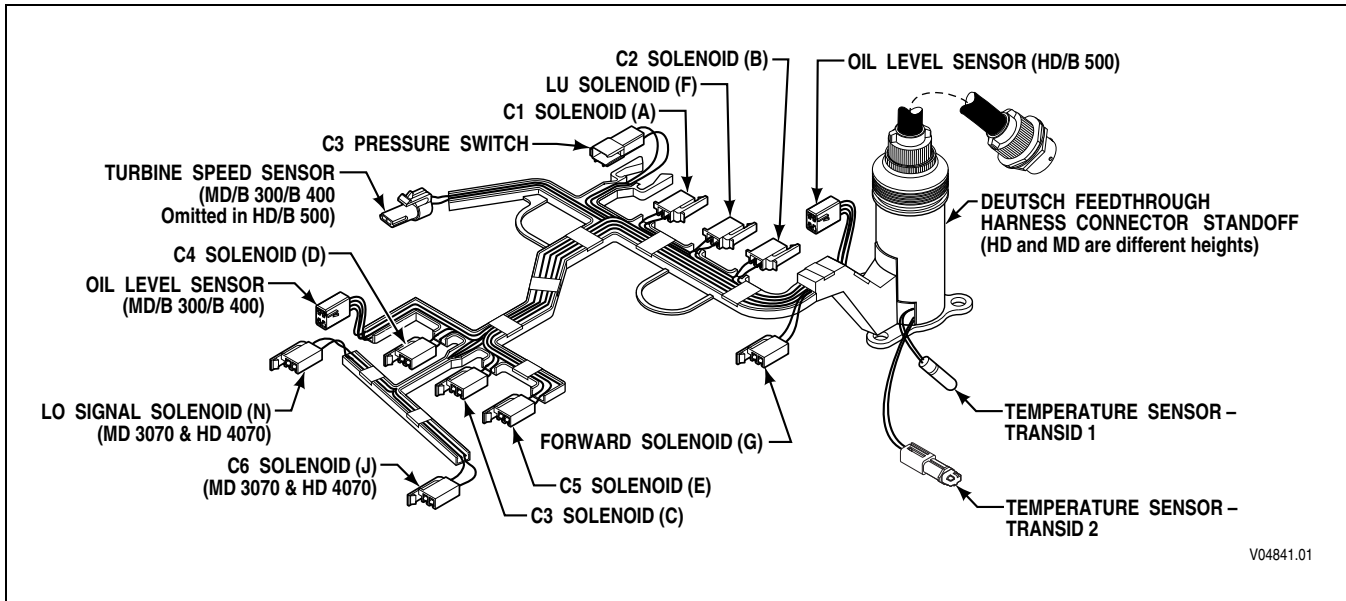

Figure 1-8. WTEC III Internal Wiring Harness
B. Internal Wiring Harness (Figure 1-8)